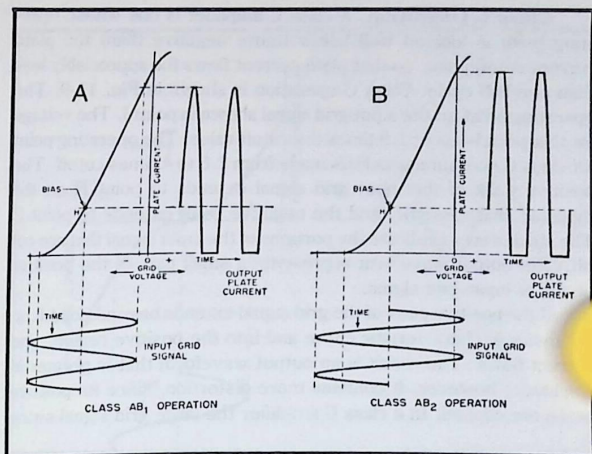

Fig. 11-8. Class AB amplifier characteristics.
Class AB₁ operation is shown in sketch A of Fig. 11-8. The operating point (H) is located between plate current cutoff and the
Class AB₂ operation is illustrated in sketch B of Fig. 11-8, with the same operating point (H) as shown in sketch A. In class AB₂ operation the peak value of grid signal exceeds the fixed bias of the tube. The positive peaks of input grid signal extend into the positive region of grid voltage. This causes grid current to flow. Just as in class AB₁ operation, the negative input peaks make the grid go beyond the cutoff point.